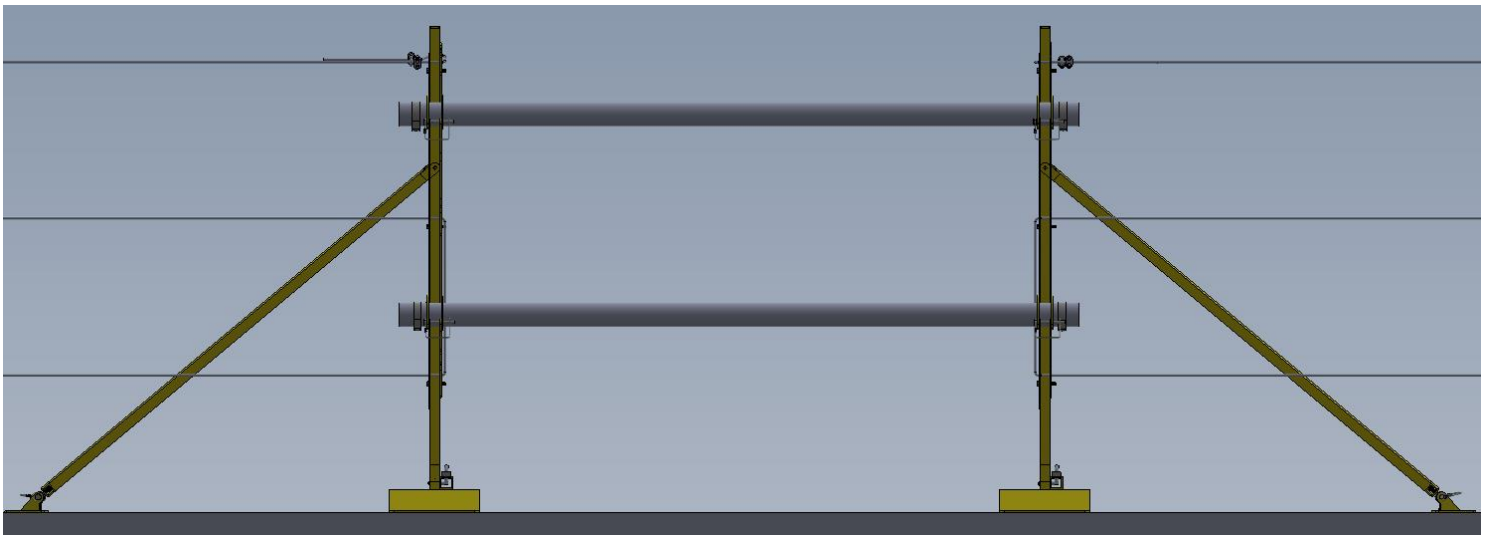

Figure 8
1. Survey the area to be protected: Place a chalk mark on the roof where you would like to begin your FallBan barrier. For roofs containing corners, one of the corners will typically be the best starting point. Make a mark between 16 and 20 inches from the corner point on each side of the corner. For straight runs, place a mark on either the leftmost or rightmost point of the protected area and use this as a starting point. From this starting line, measure and mark off 10-foot max intervals along the roof perimeter edge. At each corner, a mark should be made between 16 and 20 inches from the corner point on each side of the corner. Your starting line marks the placement of your first stanchion. For longer runs without parapet walls, stanchions should be placed every second mark from the first stanchion, with mid braces installed on the marks between stanchions. **Mid braces should not be used on parapet wall applications, stanchions should be placed every 10 feet. Additionally, the run should be planned to allow at least two termination anchor plates hardware anchored to the parapet wall. At stanchion cable termination is not allowed on parapet walls.** In runs containing corners, a stanchion must be placed at the marks between 16 inches and 20 inches from the corner point on each side of the corner. **Stanchion on-center spacing cannot exceed 20 feet.** The purpose of the mid brace is to always maintain the correct cable height. For short runs, stanchions may be installed concurrently at a maximum span of 10 feet without a mid brace in between. Ensuring ample room for material handling and ladder entry/exit, place a mark on each side of desired ladder access and staging areas. Staging areas should not exceed 10 feet in length (Figure 8, last page).
Attach each stanchion and mid brace securely to the roof. Stanchion to wall rests should be fastened to the lower wall/overhang, when possible. As a reminder: On runs containing corners, a stanchion must be placed between 16 and 20 inches from the corner point on each side of the corner (Figure 4). Additionally, a stanchion must be placed on each side of a desired access area, e.g. staging and ladder access areas (Figure 8).
13. Repeat these steps when restarting the cable run after terminating at a desired access area. Cables will need to be terminated on each side of an access area (Figure 8).